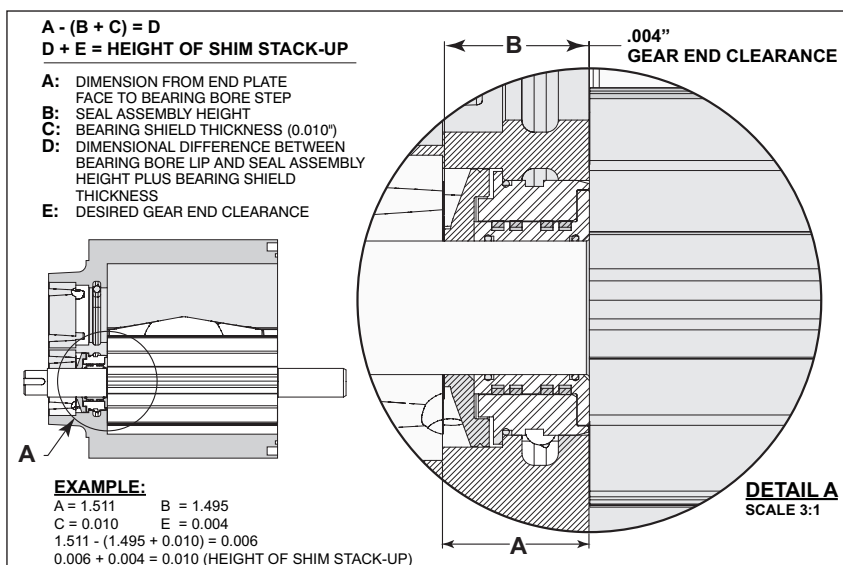

Figure 10. Bearing Bore Stack Up and Seal Measurement
- Consult Figure 10, regarding bearing bore stack up and seal measurement.